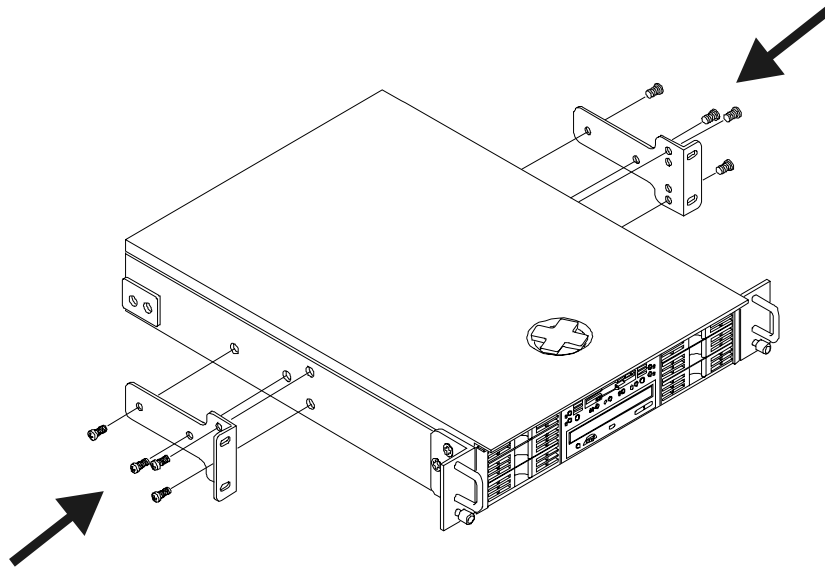

Figure 8-5. Attaching Center-Mount Brackets
- ◇ *If you are center-mounting the HP Netserver, attach the two center-mount brackets, as shown in Figure 8-5.*